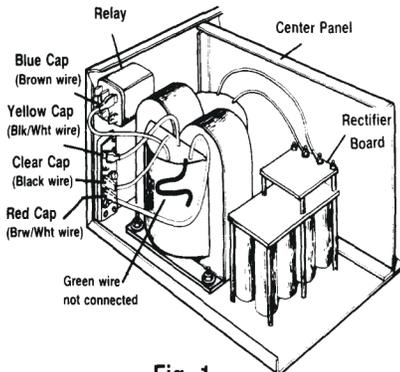
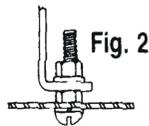

Fig. 1
Fig. 2
Place the transformer on the four 1/4-20 mounting bolts. Use care because the transformer is heavy. The side with the two high voltage secondary WHITE (RED older models) leads must be adjacent to the center panel (see Fig 1). Now place a 7/16" nut on each bolt (see Fig 2). Snug the nuts down manually. Do not tighten with a ratchet wrench.
Remove the 1/4" hex nuts and the top flat washer from the two 6-32 screws on the rectifier board (see Fig 1). Install the WHITE (RED older models) lead ring terminals on the screws and replace the flat washers and 1/4" hex nuts. Position the wires so that the black insulated areas are at least 1/4" from each other and any metal objects. Now tighten the 1/4" hex nuts.
**IMPORTANT:** The leads must be in the positions indicated by the color coded insulating boots (see Fig 1) for 240V operation, or for 200V operation in Japan. For 220 V operation, see the section titled "For 220V Operation".